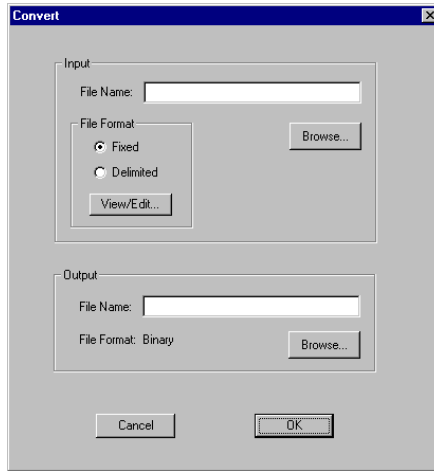

Figure 2.2. CONVERT Dialog Box
5. Click the Convert... button to open the Convert dialog box (Figure 2.2)